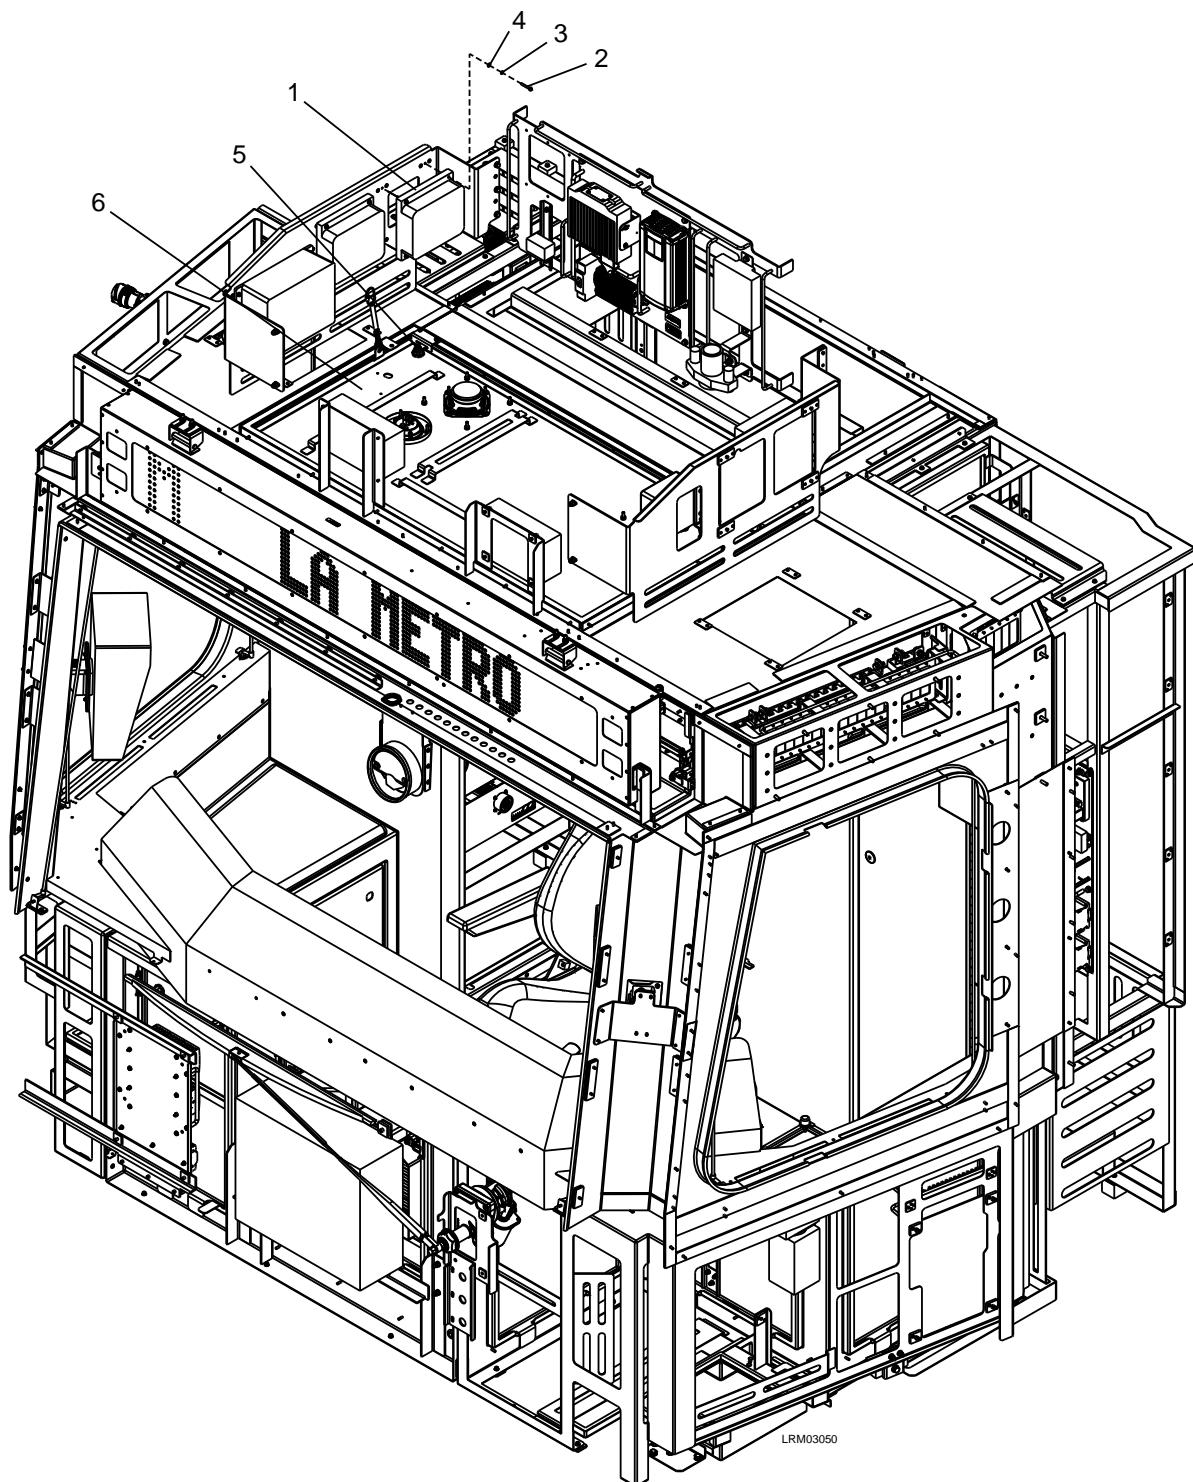

Figure 7-58: Ethernet Switch
1. Unlock the two locks (5) and lower the cab ceiling panel (6) to access the Ethernet Switch (1) and disconnect the electrical connectors. See Figure 7-58.
2. Remove the four M4 x 30 screws (2), M4 lock washers (3), and M4 plain washers (4).
3. Carefully remove the Ethernet Switch (1).